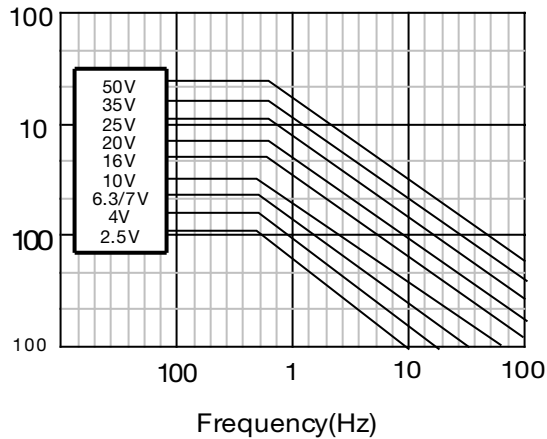

Fig.6 Maximum permissible ripple voltage (A,B)
- ▷ The maximum permissible ripple voltage varies with the rated voltage. Ensure that ripple voltage does not exceed the values shown in Figs 6 and 7. If, however, the capacitors are used at a high temperature, the maximum permissible ripple voltage must be calculated as follows: